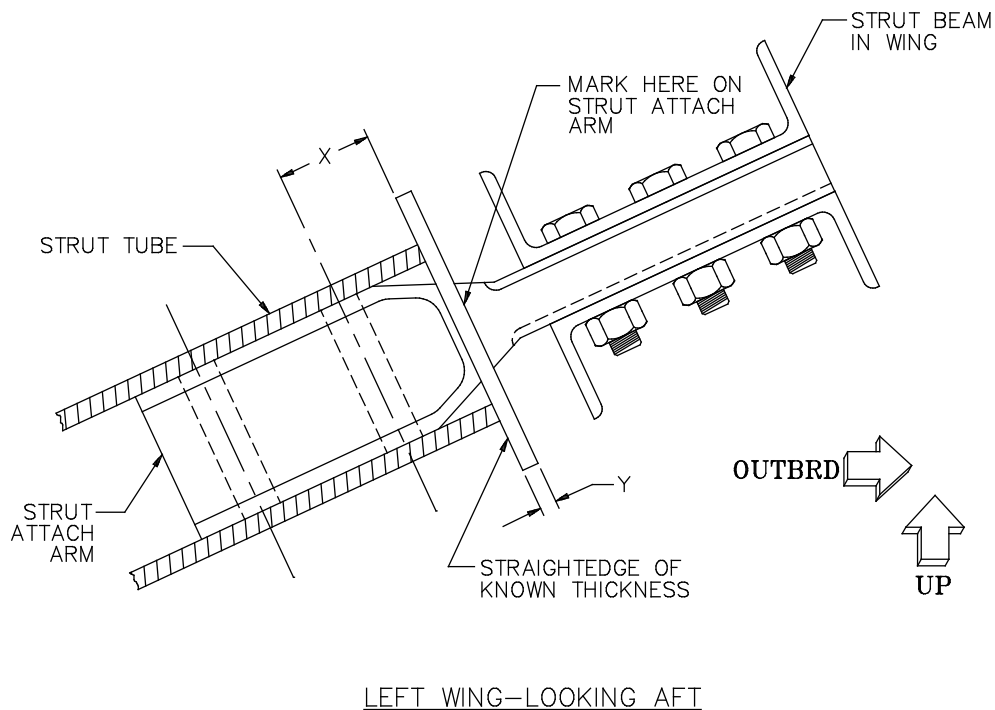

Figure 66: Marking Strut Attach Arm at End of Wing Strut Tube
- A)** Move the outboard end of the strut fore and aft as necessary until the bolt hole centerlines marked on the strut and the strut attach arm in Step 27 are aligned. Then mark the end of the wing strut tube onto the **forward** side of the wing strut attach arm, as shown in Figure 66. To do this, hold a rigid straightedge of known thickness, Y, against the end of the strut tube and, using a **very fine-point** felt-tip pen (like the Pilot "Razor Point II"), mark along the outboard side of the straightedge onto the strut attach arm.